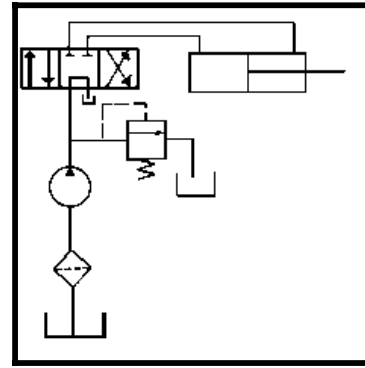

Figure 2
1. A liquid can assume any shape and be bi-directional without affecting its free flow movement (Fig 2)
B: **Schematic Circuit Diagrams** are usually preferred for troubleshooting because of their ability to show current and potential system functions. A schematic diagram is made up of consistent geometric symbols for the components and their controls and connections (Fig 2).